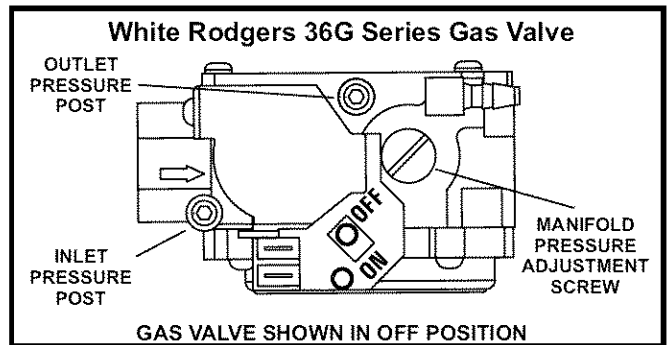

FIGURE 8
- 2 - Remove the heating compartment access panel. Remove burner box cover, if necessary. Turn the automatic gas valve knob, or switch the gas valve lever, to the **OFF** position (figures 8 and 9).
- 6 - Turn the knob on the gas valve clockwise (or move the lever) to the **OFF** position. Do not force. See figures 8 and 9.
- 7 - Wait five (5) minutes for any gas to clear out. If you then smell gas, **STOP!** Immediately call your gas supplier from a neighbor's phone. Follow the gas supplier's instructions. If you do not smell gas, go to the next step.
Check the gas line pressure while the unit is operating. Maintain a minimum of 11.0" w.c. (2.74kPa) and a maximum of 13.0" w.c. (3.23kPa). See figures 8 and 9 for the location of the inlet pressure tap on the gas valve.
- 4 - After allowing the unit to stabilize for 5 minutes, check the manifold pressure. Manifold pressure for all units using LP/propane gas should be 10.0" w.c. (2.5kPa). See figures 8 and 9 for the location of the pressure adjustment screws.
The White Rodgers 36G gas valve (figure 8) is equipped with pressure posts for measuring supply and manifold pressures. The posts provide built-in hose connections and have an integral 3/32" Allen-head screw. Rotate the screw counter-clockwise one full turn to permit pressure measurement. Reseat the screw (rotate one full turn clockwise) after measurements have been taken to prevent gas leakage.